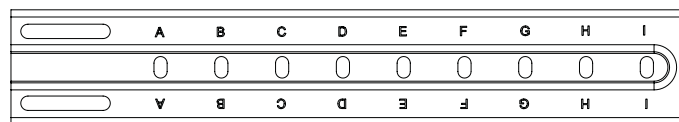

Figure 8. Back mounting bracket holes
9. Determine which holes in the back mounting brackets to use. The back mounting holes are lettered A through I, as shown in Figure 8.